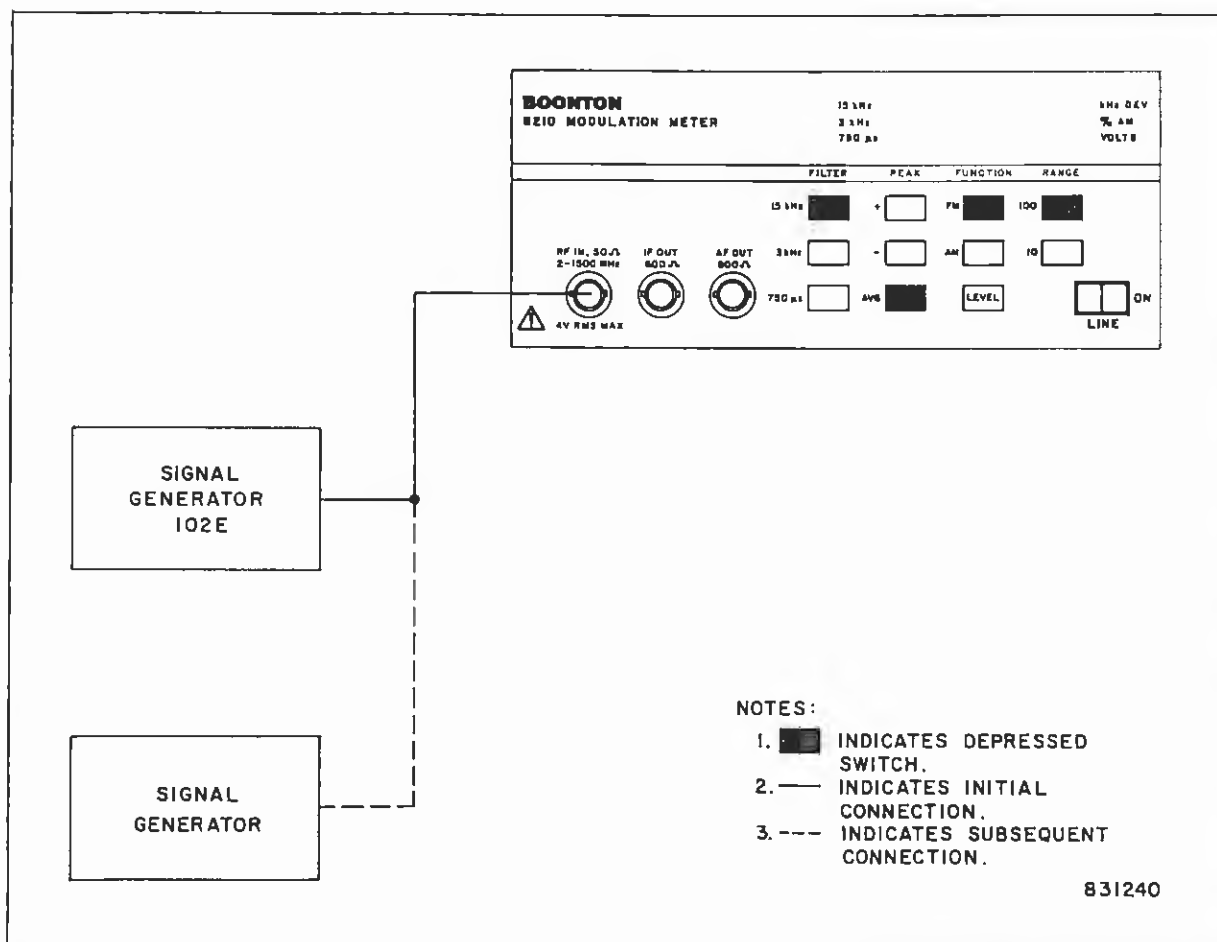

Figure 2-6. Test Setup: R.F. Input Sensitivity
- (1) Connect the 8210 and test equipment as shown in Figure 2-6.
- (2) Depress the switches of the 8210 as indicated in Figure 2-6.
- (3) Apply a 10 MHz, 10 mV r.m.s. signal from the Model 102E-19 signal generator to the RF IN connector of the 8210. The 8210 should indicate "lock" and adequate signal level for a measurement.
- (4) Change the r.f. input to 500 MHz. Indications should be the same as in Step (3).
- (5) Connect the Model 8660C signal generator to the RF IN connector of the 8210. Set the signal generator's controls to provide an r.f. input of 30 mV, r.m.s., at 1500 MHz. Indications as in Step (3).